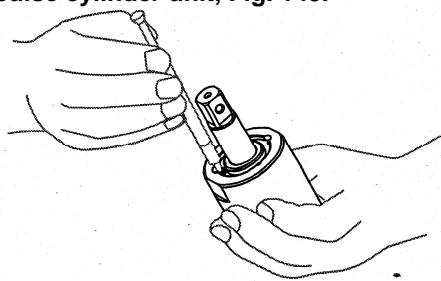

Fig.149
- ⑤** Loosen the greasing screw again and use an injector to draw out a little amount of oil ( see Table 17 ) . Finally, tighten the greasing screw back to the pulse cylinder unit, Fig. 149.